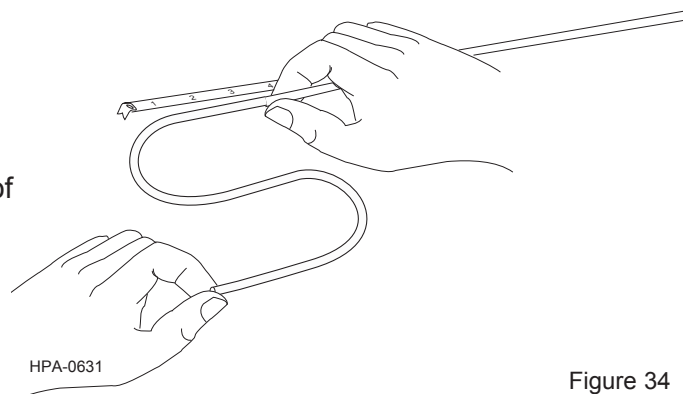

Figure 34
**Step 1:** Loop approximately 12 inches (30 cm) of the cable in the shape of an "S" forming three sections, approximately 4 inches (10 cm) long. (Figure 34).